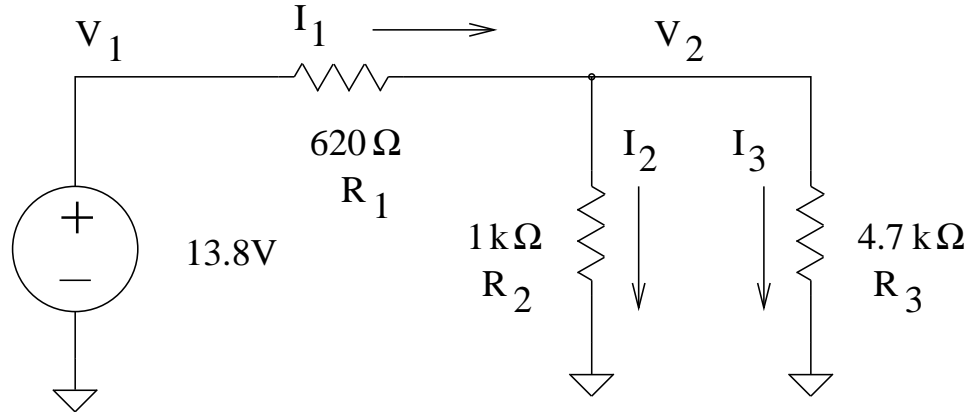

Figure 27: A resistive network
Consider the resistive network shown in Figure 27.
1. Use the Orcad[®] software package along with the PSpice[®] simulator to find each of the node voltages V_1 and V_2 along with currents I_1 , I_2 and I_3 for the circuit of Figure 27. Document your steps in your lab notebook:
1. For the circuit of Figure 27, compare the calculated, simulated, and experimental voltages and currents. **Use a table.**